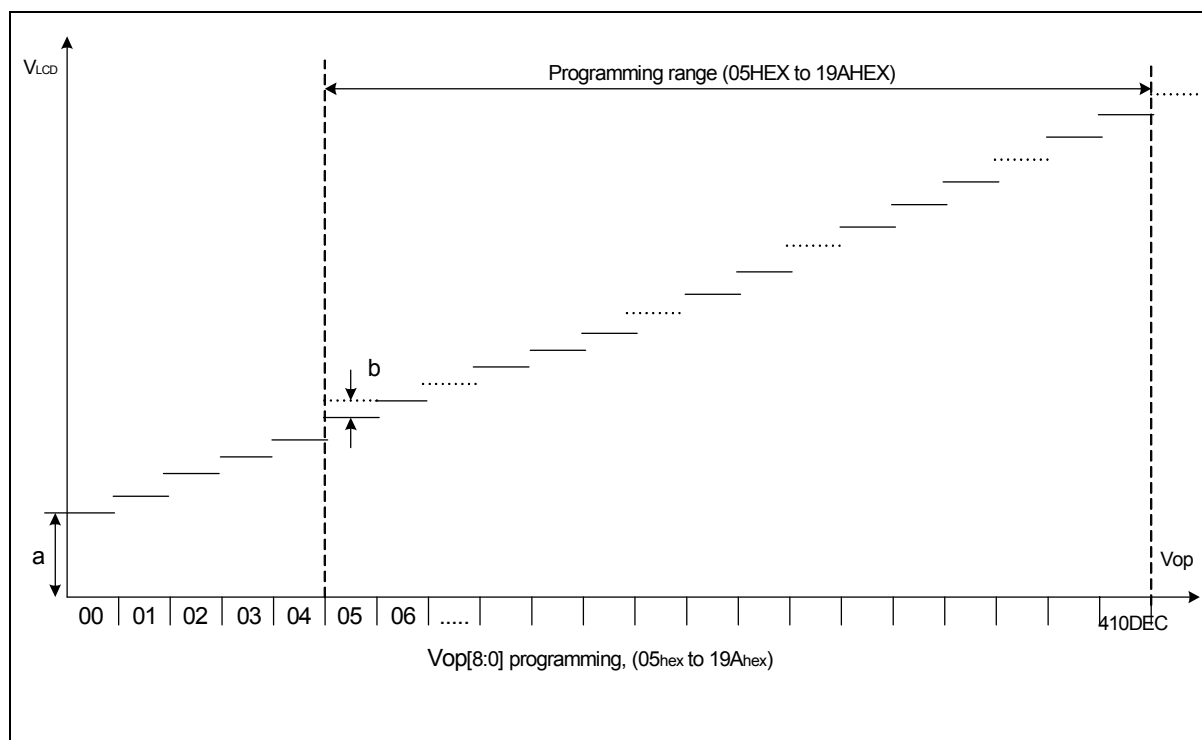

Fig. 8.10.2 VLCD programming range
The VOP[8:0] value must be in the V_{LCD} programming range as given in Fig.8.10.2. Evaluating equation (1), values outside the programming range indicated in Fig.8.10.2 may result. Calculated values below 0 will be mapped to V_{OP}=0, resulting V_{OP} values higher than 445 will be mapped to V_{OP}=445.